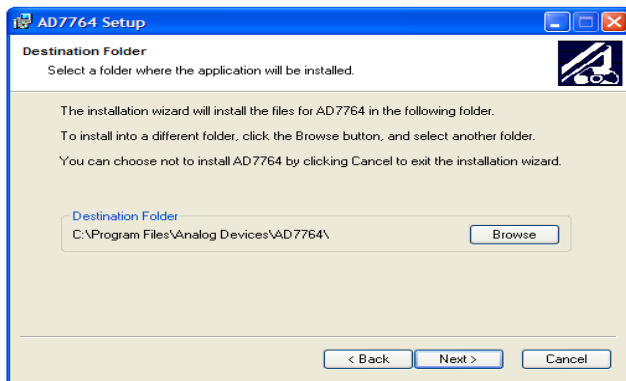

Figure 3 Choose the Destination of the AD7764/AD7765 Software
3. The installation wizard allows the user to choose where the installation should be located (see Figure 3). If a different location than the default is preferred, click **Browse** and select the desired location. When ready, click **Next**.